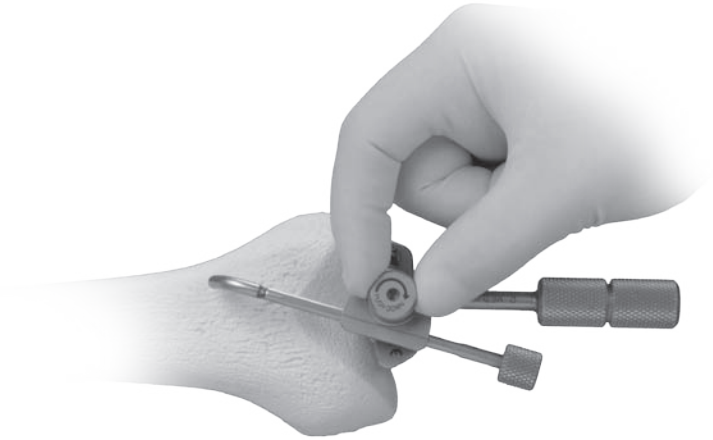

Fig. 12
- Adjust A/P height of the cut guide by turning the IM guide adjustment knob until the boom tip just contacts the cortex (Fig. 12).